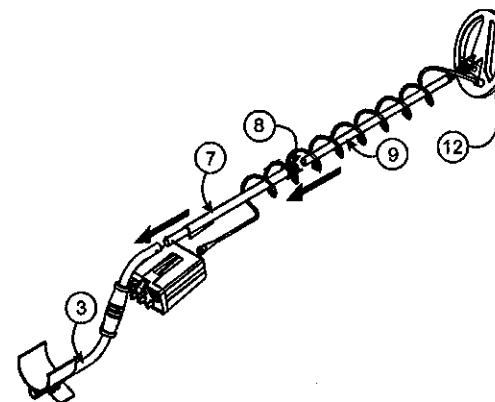

Figure 3—Completing the shaft assembly
- Slide the intermediate shaft (7) into the upper shaft (3). The black "V" clip (6) must be facing down along the foam handgrip section of the upper shaft (see figures 3 & 4).